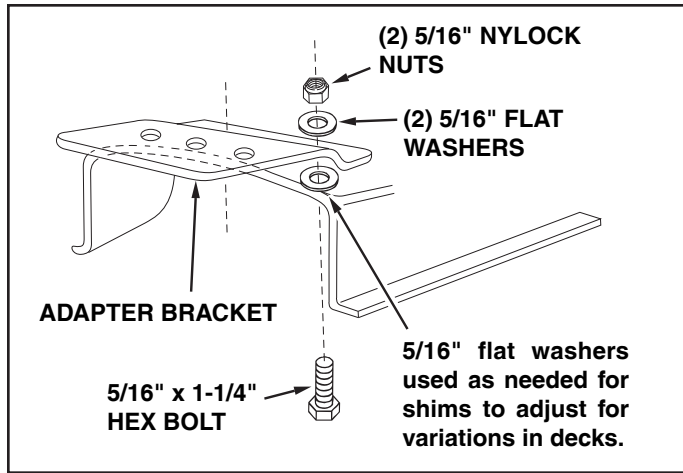

FIGURE 32
- Assemble the adapter bracket to the deck using two 5/16" x 1-1/4" hex bolts, 5/16" flat washers and 5/16" nylock nuts. See figure 32.
NOTE: It may be necessary to use extra 5/16" flat washers to shim under the bracket next to the deck surface. Ten extra washers have been furnished as shims. See figure 32.